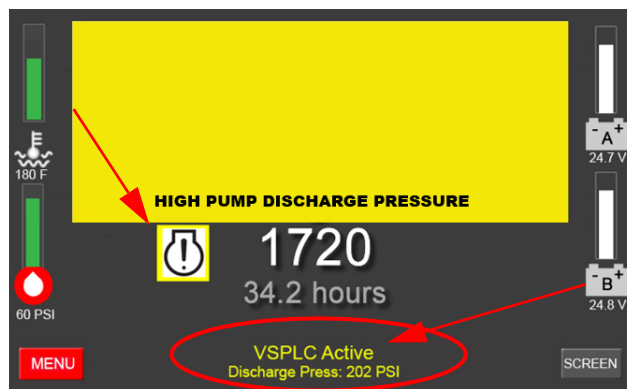

Figure 2-13 VSPLC active screen - yellow (sample)
- The pump discharge **pressure is greater than 115%** of the desired pressure in a Variable Speed Pressure Limiting Control (VSPLC)-enabled system (see Figure 2-13).
- “VSPLC Active” and the VSPLC discharge pressure will be displayed in yellow at the bottom of the screen (shown in Figure 2-13)
- A yellow engine warning lamp icon will also appear on the screen (shown in Figure 2-13)